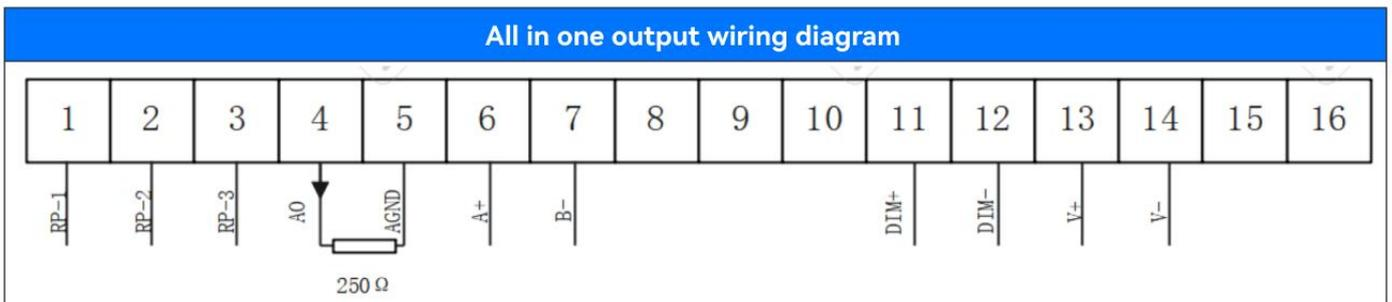
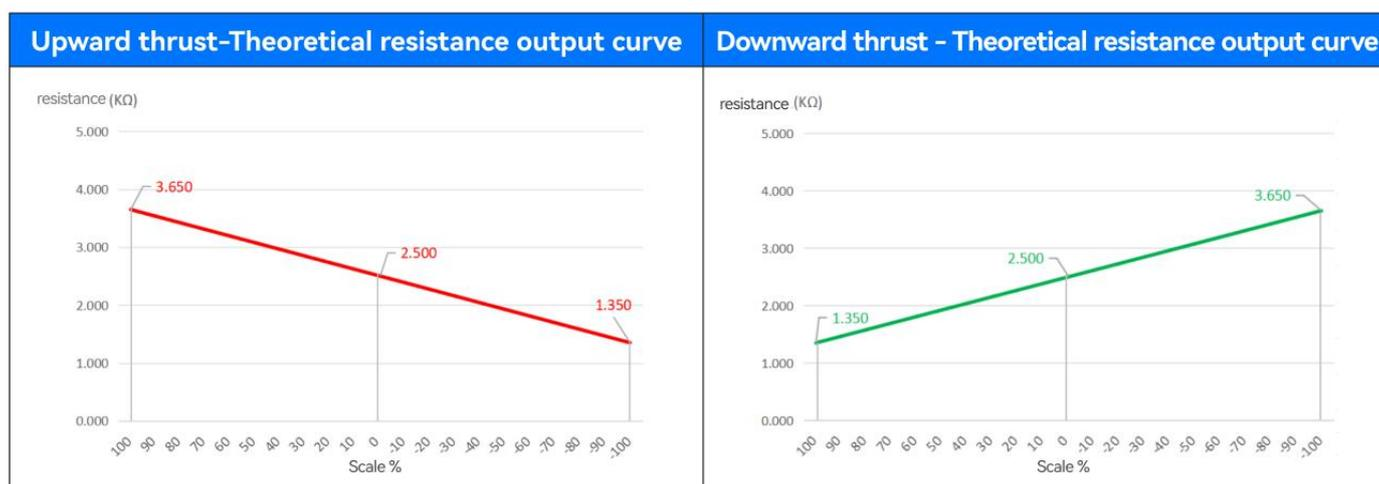
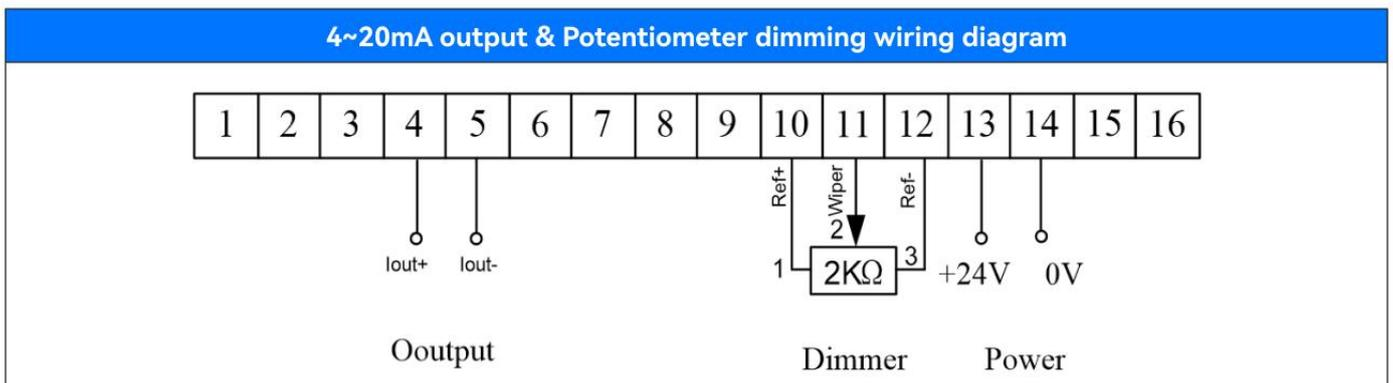
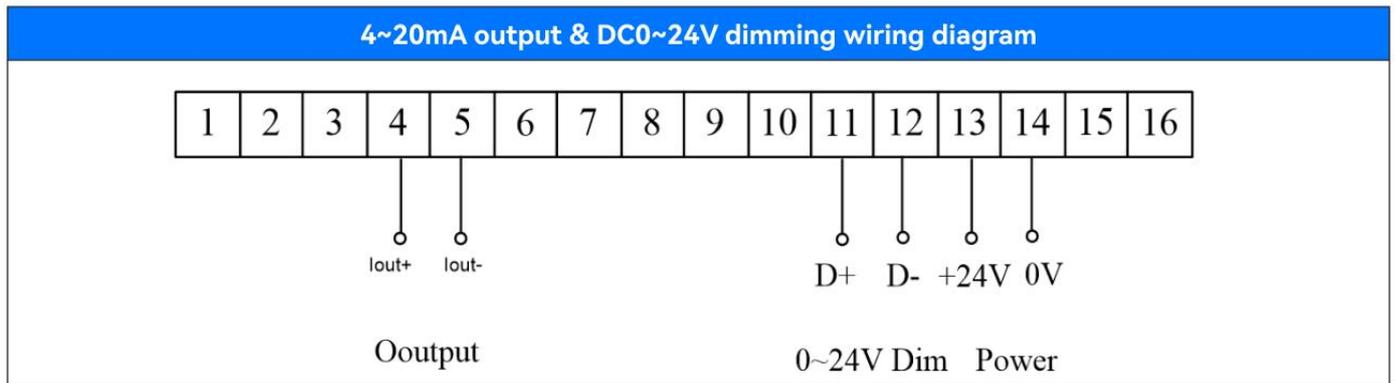

Figure 1.5
Figure 2.1
Figure 2.6
Figure 2.7
5. Output mode: direct potentiometer linear output, linear relationship with the scale, the theoretical output is shown in Figure 2.1, the actual output is seen in the product factory inspection report.
6. Output signal: The handle can provide a variety of optional output signals for the control system, including the potentiometer direct output, 4~20mA. Please refer to Figure 1.5 for the connection of the direct output type of potentiometer, and Figure 2.1 for the corresponding relationship. Figure 2.6 shows the cable connections for 4 to 20mA outputs. Under normal circumstances, the corresponding relationship of the output signal is: the scale -100% corresponds to the 4mA output, the scale 0 corresponds to the 12mA output, and the scale +100% corresponds to the 20mA output.
7. Backlight adjustment mode: the thin film of the handle adopts cold light source design, the brightness can be adjusted, and the dimming mode includes resistor adjustment (among which the dimming mode of the resistor is only suitable for our model VDM-96 dimmer, the resistance value is 2KΩ, the wiring is shown in Figure 1.5), 0-24V voltage adjustment, PWM. For 0-24V dimming signals, the dimming signal is the darkest at 0V and the brightest at 24V. Note that the dimming signal and the power signal cannot be shared, otherwise the handle signal output will be affected, resulting in failure to work normally. The wiring diagram is shown in Figure 2.7:
2. Switch on the power supply, connect the cables as shown in Figure 1.5, push the handle rod, and the resistance reading between terminals 1 and 2 is the output value of continuous linear change in Figure 2.1. The backlight emits normally. After the inspection is complete, place the handle lever at 0 scale.
3. According to the characteristics of the accessories used in this product, the instantaneous input voltage shall not exceed 20% of the range specified in Figure 1.5 at any time. Avoid excessive instantaneous current and burning accessories.